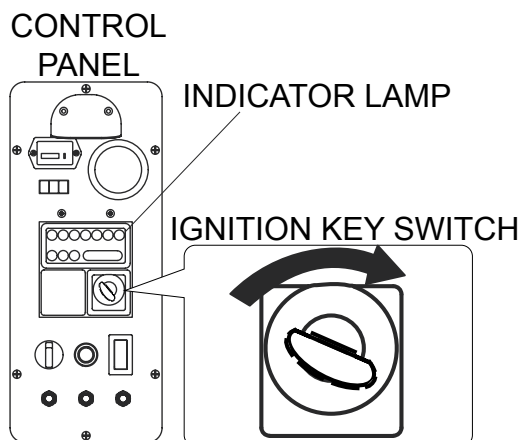

Figure 14. Ignition Switch
2. Insert the ignition key into the ignition key switch (Figure 14).